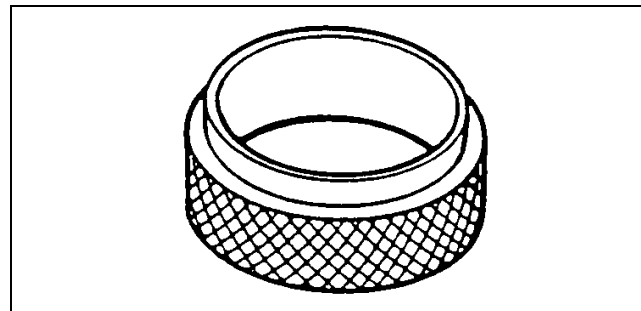

Figure 20
- TOR70153C Rear Main Seal Installer (Fig. 20)